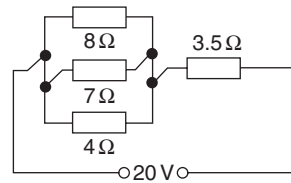

Fig. 22
5. For the circuit of Figure 22, find